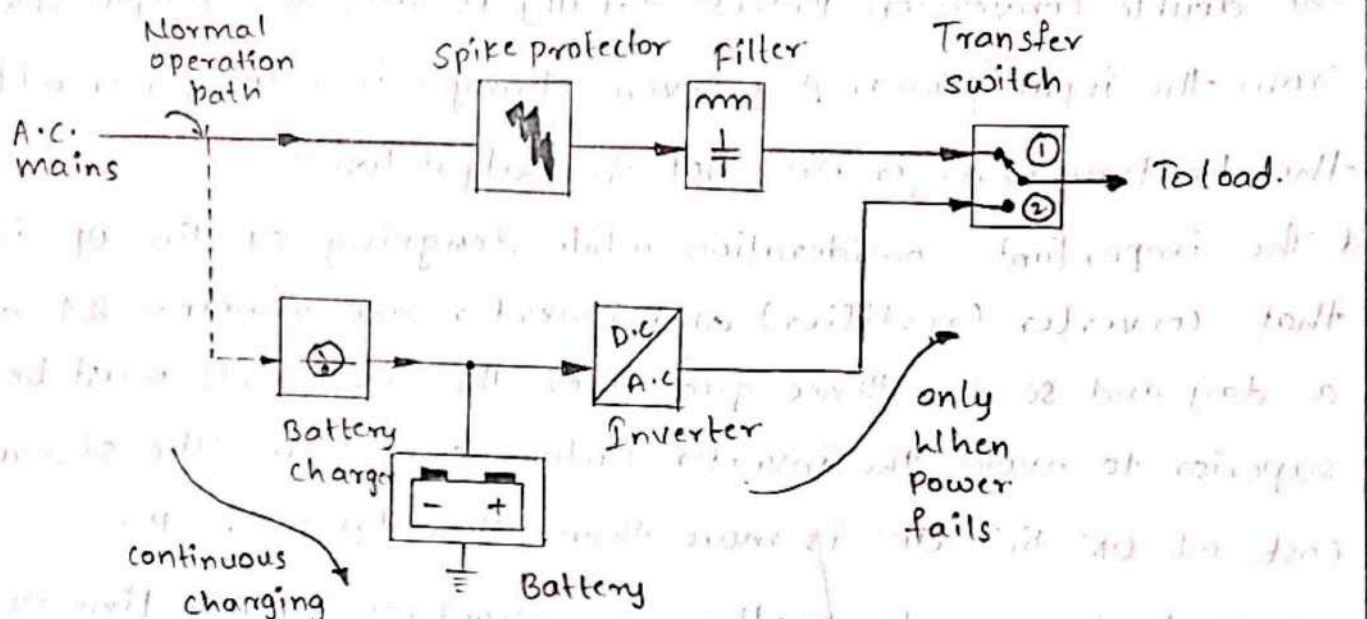

Fig. 0.29.1 Block Schematic of OFF line Ups.
* The Fig. 0.29.1 shows the blocks schematics of OFF line Ups.